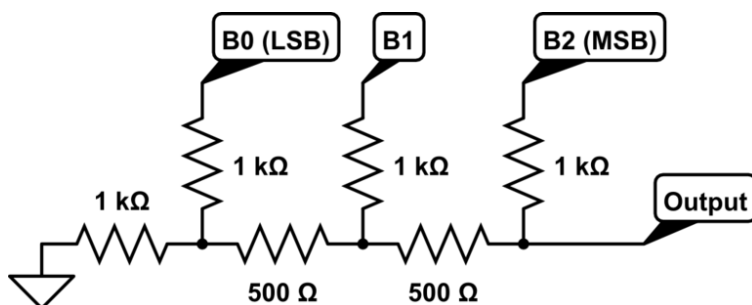

Figure 5
- Using only 1% 1k $\Omega$  resistors construct the circuit shown in figure 5 (use two 1 k $\Omega$  resistors in parallel to get 500 $\Omega$ ).